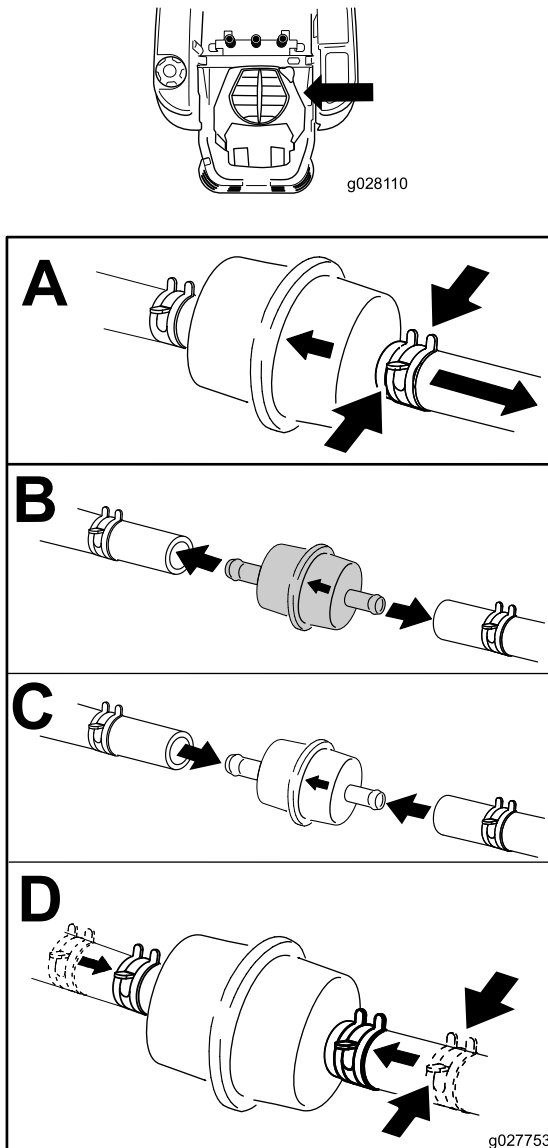

Figure 43
3. Replace the fuel filter as shown in Figure 43.